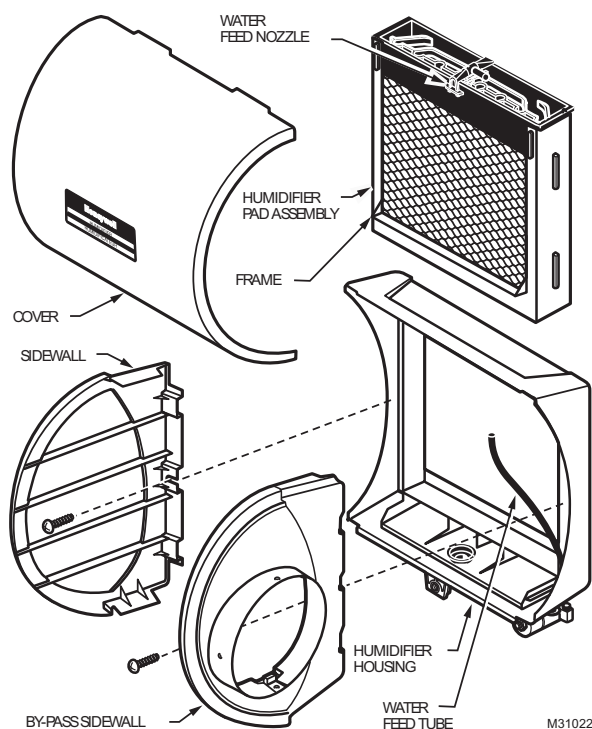

Fig. 2. Humidifier components.
4. Disassemble the humidifier. Remove the cover and take out the humidifier pad assembly. See Fig. 2.